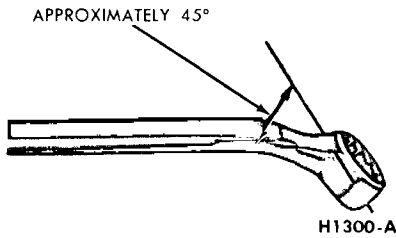

FIG. 9—Wrench for Bleeding Brake Hydraulic System
2. To bleed the secondary (rear) brake system, position a suitable 3/8 inch box wrench (Fig. 9) on the bleeder fitting on the brake wheel cylinder. Attach a rubber drain tube to the bleeder fitting. The end of the tube should fit snugly around the bleeder fitting.
4. If the rear wheel cylinders and the secondary brake system is to be bled, position a 3/8 inch box wrench (Fig. 9) on the bleeder fitting on the right rear brake wheel cylinder. Attach a bleeder tube to the bleeder fitting. The end of the tube should fit snugly around the bleeder fitting.